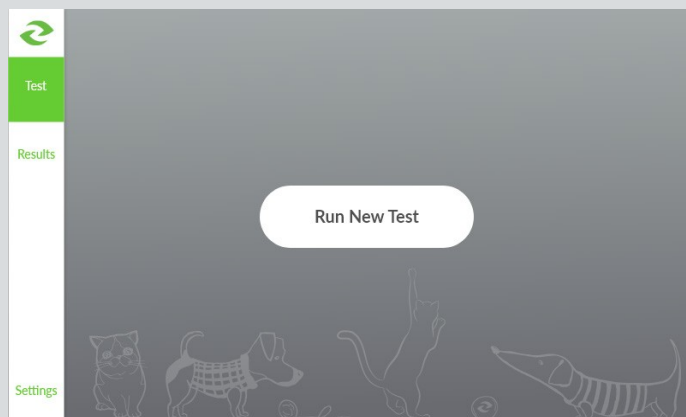

Figure 4.2
1. To power up the instrument, press the power button on the top of the instrument. It takes approximately five minutes to reach the required internal operating temperature of 37 °C (99 °F). Once the operating temperature is reached, the home screen will be visible (Figure 4.2). It is recommended to leave the instrument on for the period of the working day.
Once the instrument is ready to analyze a sample, the home screen will be displayed informing the user that a new test can be performed (Figure 4.2).